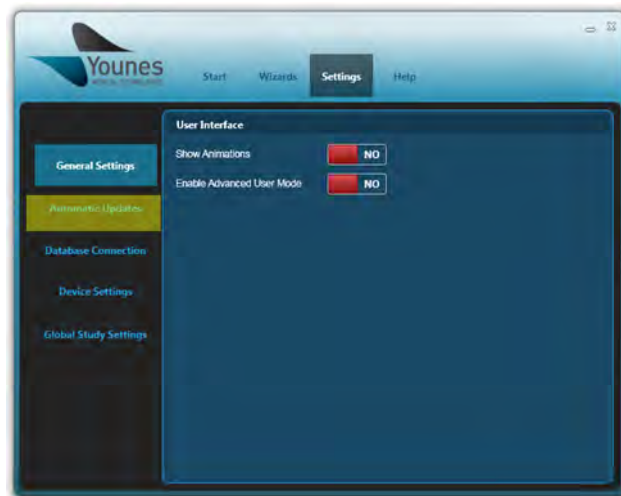

Figure 56 – Windows PC Prodigy Application Screen With “Automatic Updates” Button Highlighted
2. Click the “Automatic Updates” button highlighted in Figure 56.